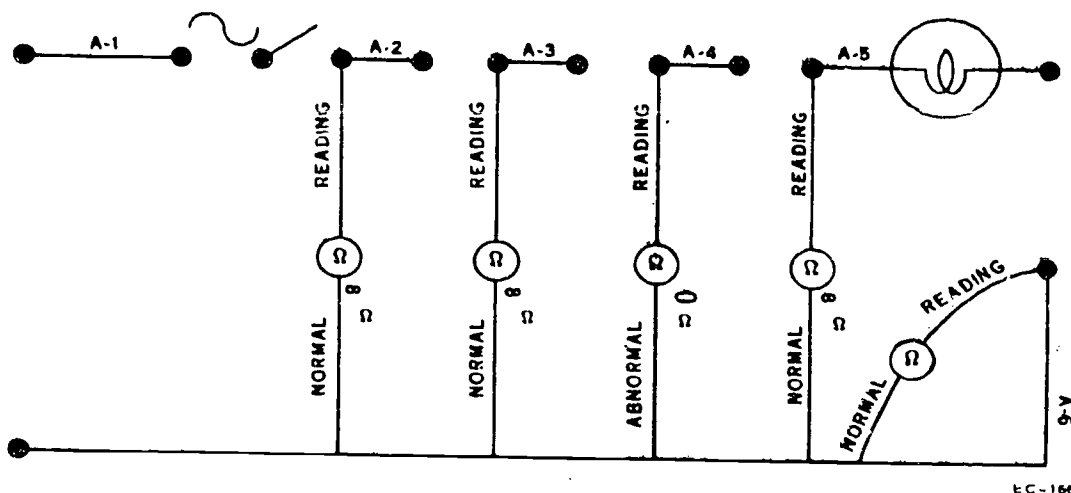

Figure 2-17
LOCATING DIRECT SHORTS. Some kind of continuity tester, such as the ohmmeter, continuity meter or continuity light is used in locating direct shorts. The negative leads should be isolated and the testing device connected across the isolated leads. Notice in figure 2-17, an ohmmeter is being used to locate a direct short. Only the ohmmeter connected to the A-4 lead indicates continuity (0), therefore, A-4 lead is shorted to the opposite side of the circuit providing a shortcut for current flow.